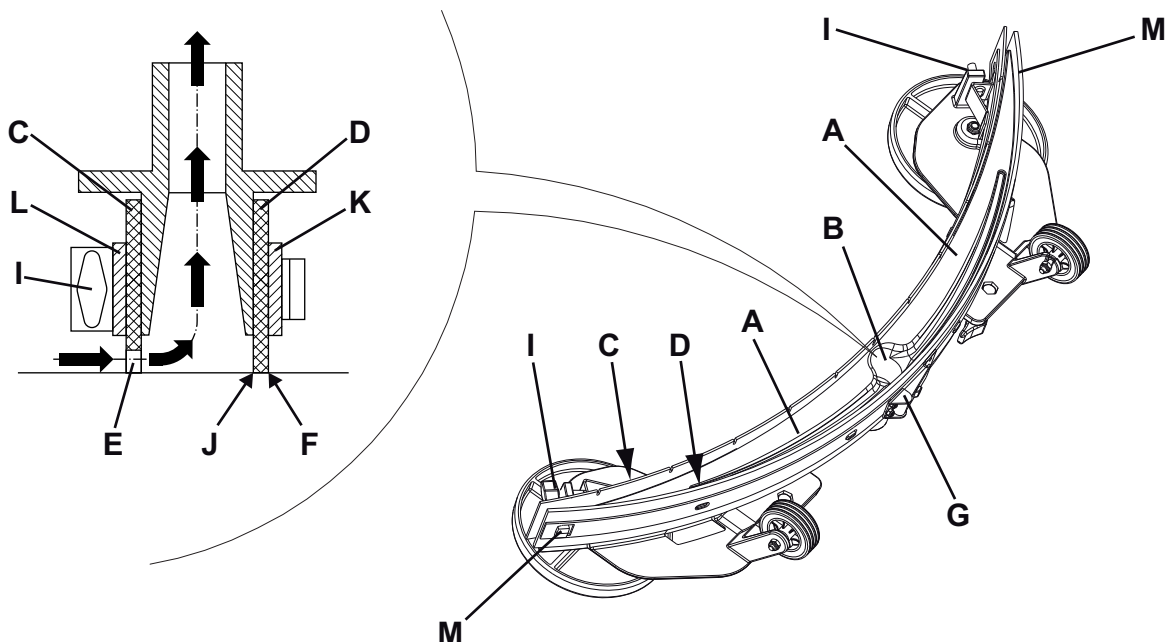

Figure 5
2. Turn the ignition key (80) to "0".
3. Lower the squeegee (25) with the lever (10).
4. Loosen the handwheels (26) and remove the squeegee (25).
5. Disconnect the vacuum hose (15) from the squeegee.
6. Wash and clean the squeegee (Fig. 5). Clean the compartments (A, Fig. 5) and the hole (B) especially. Check the front blade (C) and the rear blade (D) for integrity, cuts and tears; if necessary replace them (see the procedure in the following paragraph).
1. Clean the squeegee (Fig. 5) as shown in the previous paragraph.
2. Check that the edges (E) of the front blade (C) and the edges (F) of the rear blade (D) lay down on the same level, along their length; otherwise adjust their height according to the following procedure:
- Remove the tie rod (G), disengage the fasteners (M) to adjust the rear blade (D); then engage the fasteners and install the tie rod.
- Loosen the handwheels (I) and adjust the front blade (C); then tighten the handwheels.
3. Check the front blade (C) and rear blade (D) for integrity, cuts and tears; if necessary replace them as shown below. Check the front corner (J) of the rear blade for wear; if necessary, overturn the blade to replace the worn corner with an integral one. If the other corners are worn too, replace the blade according to the following procedure:
- Disengage the tie rod (G), disengage the fasteners (M), remove the retaining strip (K) and replace/overturn the rear blade (D). Install the blade in the reverse order of removal.
- Unscrew the handwheels (I) and remove the retaining strip (L), then replace the front blade (C). Install the blade in the reverse order of removal.